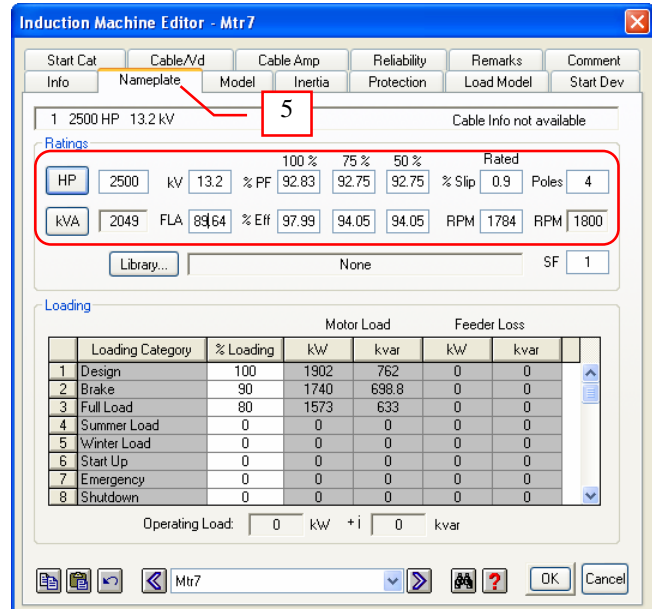

Fig. 2
See Fig. 2
17. That’s it. We’re done with the Motor equivalent circuit model by Parameter Estimation. To complete the motor dynamic model eventually, you may enter the machine Inertia and the Load torque Model on the “Inertia” and “Load Model” tabs of the “Induction Machine Editor” dialog window. See Fig. 2